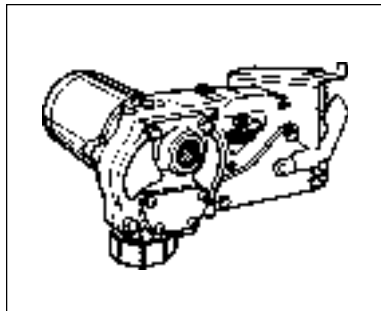

Figure 13
3. Inspect the wiring connections and cavity. (Figure 13)